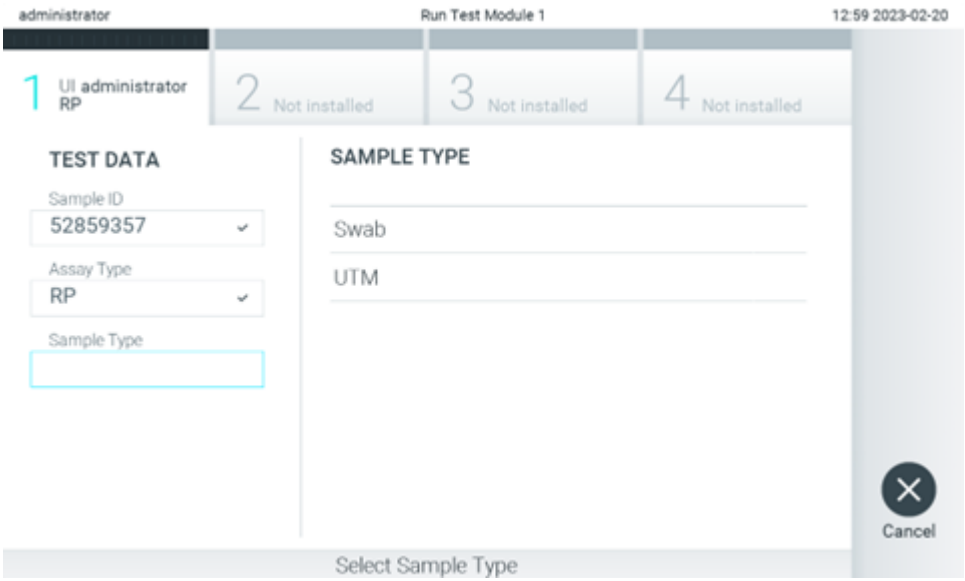

Figure 25. Selecting sample type.
4. If required, select the appropriate sample type from the **Sample Type** list (Figure 25).